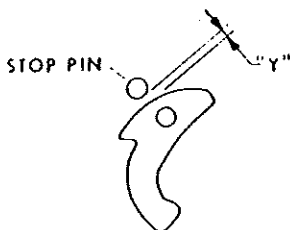
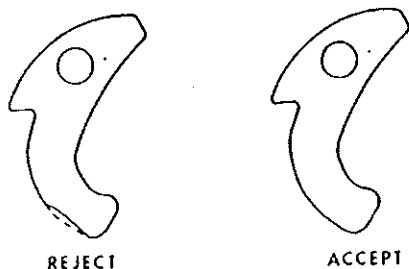

Figure 608. Flyweight/Axle Wear Check (Push)
Figure 609. Flyweight Tail Condition Check
(3) Remove the hook wire from the flyweight and insert additional feeler gages between stop pin and flyweight as required to push the flyweight directly in toward the magneto rotor shaft as far as possible. Force exerted to insert feeler gages should be limited to that required for any normal feeler gage measurement. Record the measurement obtained ("Y" of Figure 608).
(4) Subtract measurement "X" from measurement "Y" to determine wear of flyweight and axle. If "Y - X" is greater than 0.016 inch, impulse coupling cam assembly must be rejected. If movement is 0.016 inch or less, flyweight and axle wear is within acceptable limits.
- C. Flyweight tail condition must be given a visual examination to determine if flyweight is still serviceable. The surface at the apex of the beveled edge must blend smoothly with the outer contour of the flyweight. No flattening, denting or chipping is permissible. Any irregularity of this surface is cause for immediate rejection of the cam assembly. (See Figure 609.)